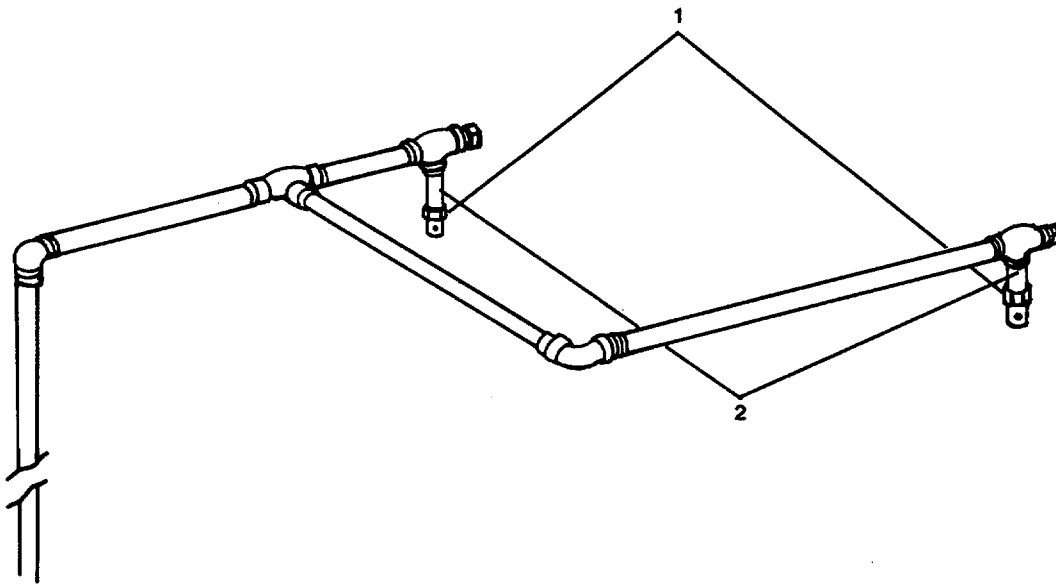
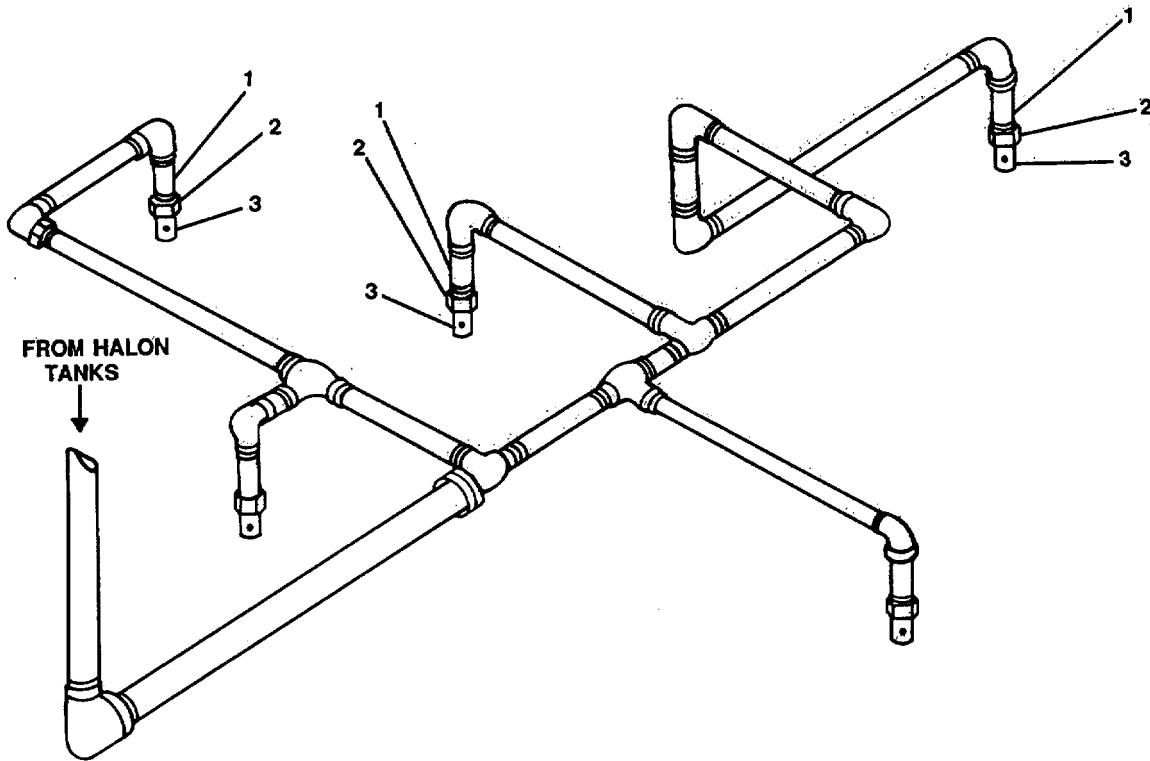

FIGURE 3-5. *Halon Nozzles.*
FIGURE 3-6. Fire Foam Nozzles.
(1) Hose Assembly.
- (a) Disconnect hose connector (16).
- (b) Disconnect hose connector (14) on opposite end of hose (15) from pipe fitting (13).
(2) Electro-pneumatic actuator.
- (a) Remove male adapter (17) from actuator (18).
- (b) Unscrew and remove actuator (18) from valve (19) on halon tank (20).
(3) Halon nozzles.
- (a) Position pipe wrench over halon nozzle (1, Figure 3-5) with counter-clockwise rotation to remove nozzle from metallic pipe (2) in halon piping system.
(4) Fire foam nozzles.
- (a) Position pipe wrench over union (2, Figure 3-6); turn with counterclockwise rotation to remove fire foam nozzle (3) from metallic pipe (1).
Repair of the halon subsystem consists of replacing globe valve (36), time delay (9), pressure operated switch (3), nonmetallic hose assemblies (15, 24), release lever (26), electro-pneumatic actuator (18), halon nozzle (1, Figure 3-5), and fire foam nozzles (3, Figure 3-6).
(1) Fire foam nozzles.
(a) Install fire foam nozzle (3, Figure 3-6) on threaded end of metallic pipe (1).
(2) Halon nozzles.
(a) Install halon nozzle (1, Figure 3-5) on threaded end of metallic pipe (2).